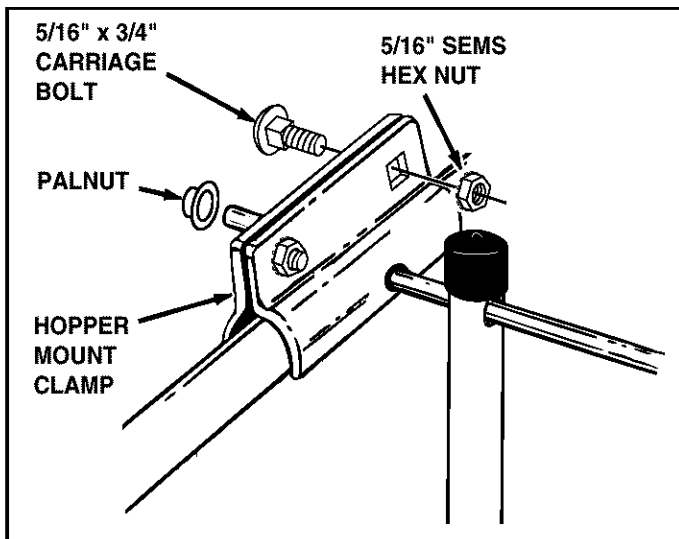

FIGURE 18
- Assemble the two remaining hopper mount clamps onto the pivot rod on the outside of the bag. Fasten them to the inside clamps using four 5/16" x 3/4" carriage bolts and 5/16" (SEMS) hex nuts. Tighten securely. See figure 18.
- Assemble two palnuts by lightly tapping them onto the ends of the pivot rod with a hammer. See figure 18.